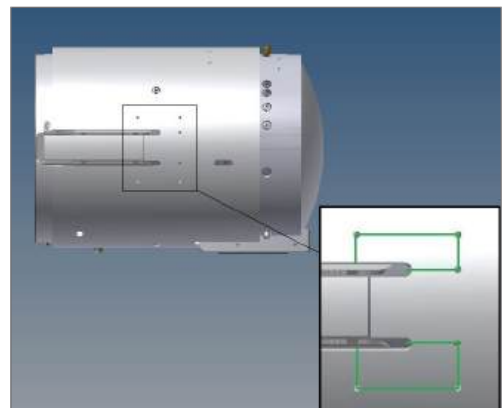

Fig. 1: Cutting the chamber insulation free (Cliniclave 45)
1. Cut out a corner from the insulation (see green line in fig. 1 detail) with a Stanley knife. To do so, remove the air gap from the right-hand side of the steam sterilizer in accordance with a separate instructions and disconnect the vacuum pump plug.